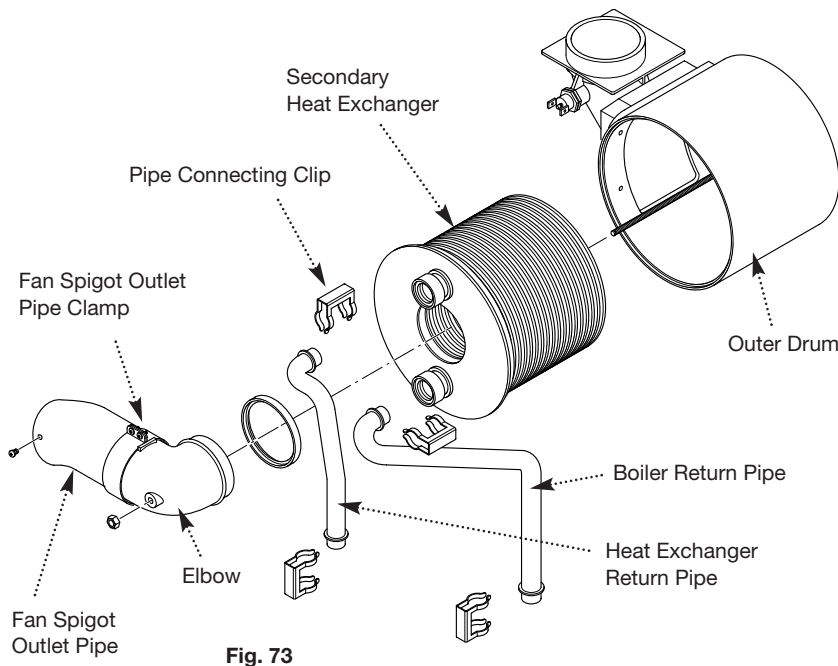

Fig. 73
12.23 Secondary Heat Exchanger (Fig. 73)